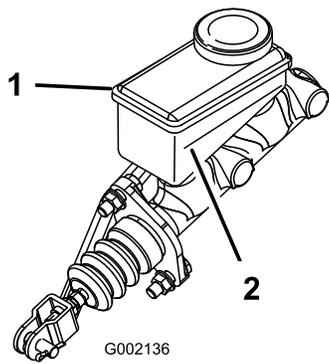

Figure 18
3. Look at the outline of the fluid level at the side of the reservoir (Figure 18).
- B. Add DOT 3 brake fluid to the reservoir until the fluid level is above the Minimum line (Figure 18).